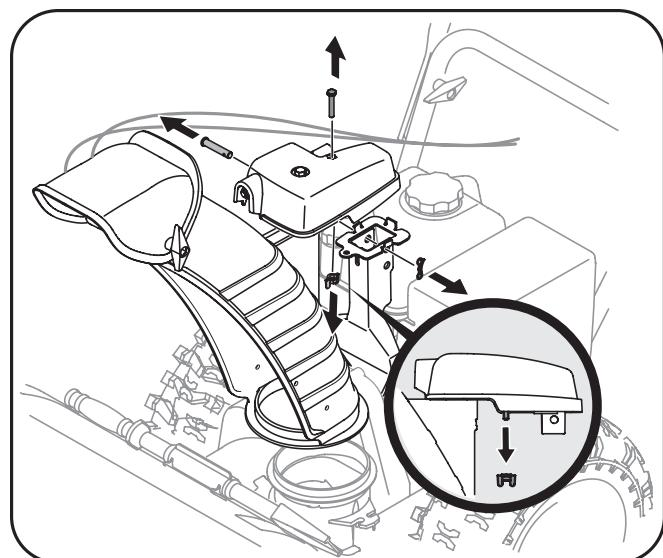

Fig. 3-3
- Remove wing nut and hex screw from chute control assembly and clevis pin and cotter pin from chute support bracket. See Fig. 3-3. Position the chute assembly (forward-facing) over the chute base.